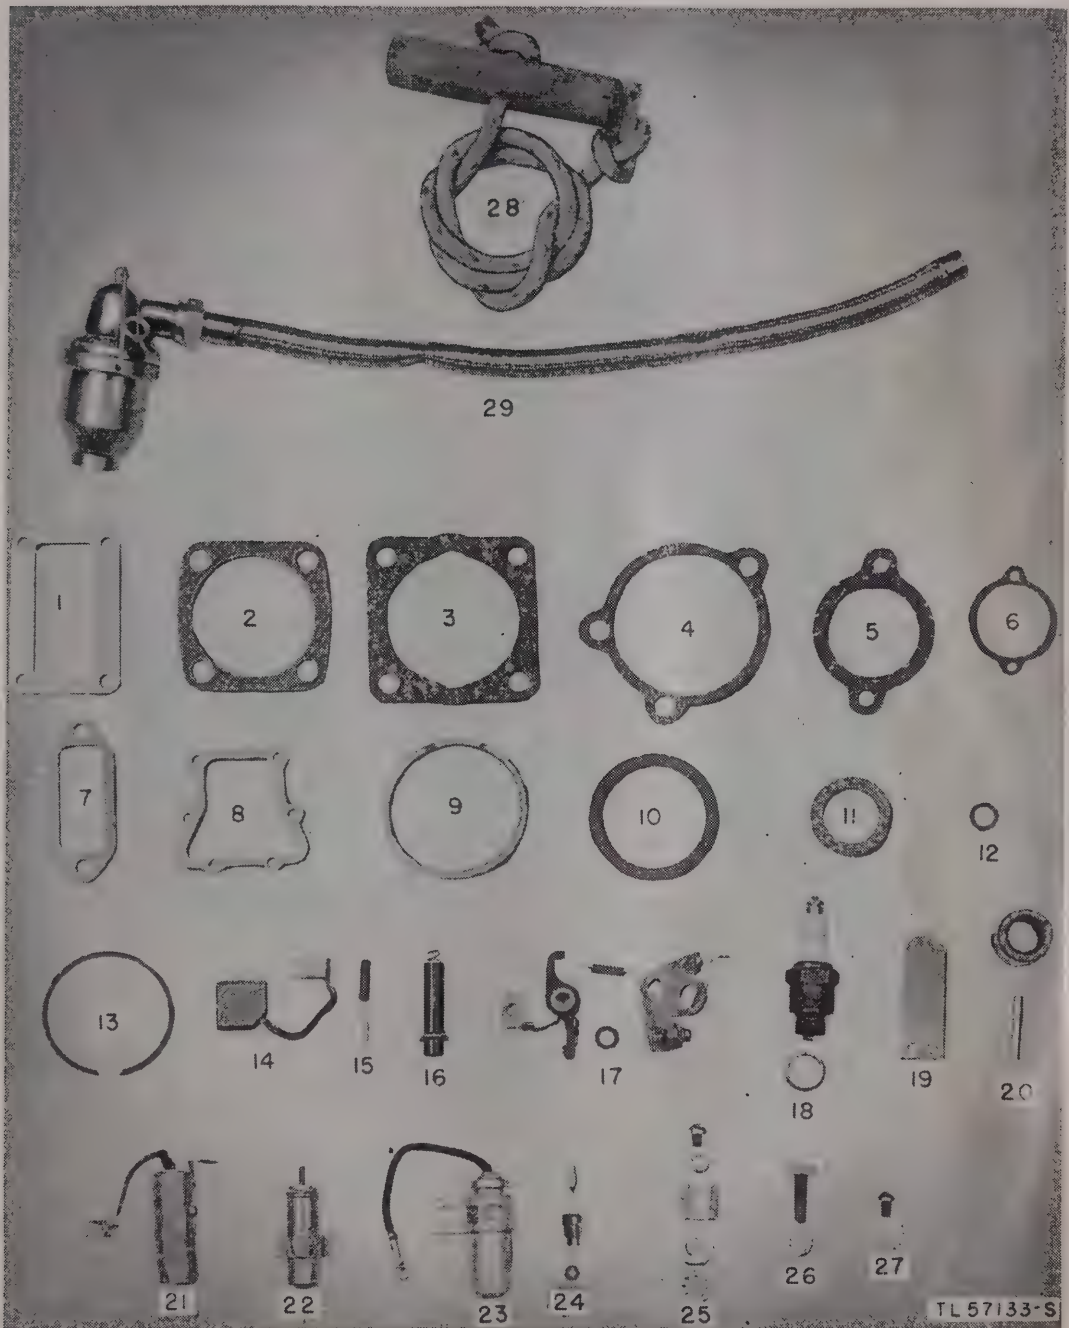

Figure 4. Running spare parts.
i. RUNNING SPARE PARTS (fig. 4). The following running spare parts are packed in the spare parts box mounted on the power unit frame: